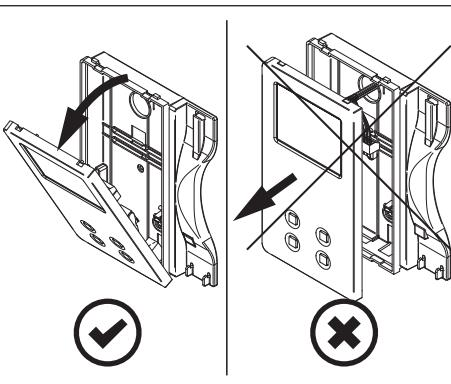

Fig. 4
- Pull outwards the top part of the cover as shown in Fig. 4. **Don't pull the cover straight.**